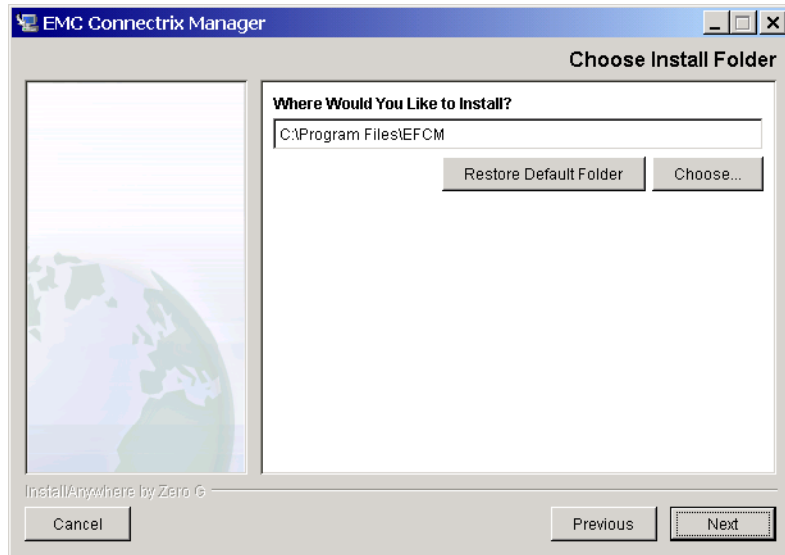

Figure A-31 **Connectrix Manager Installer — Select Install Folder**
10. Click **Next**. This displays the window shown in Figure A-31.